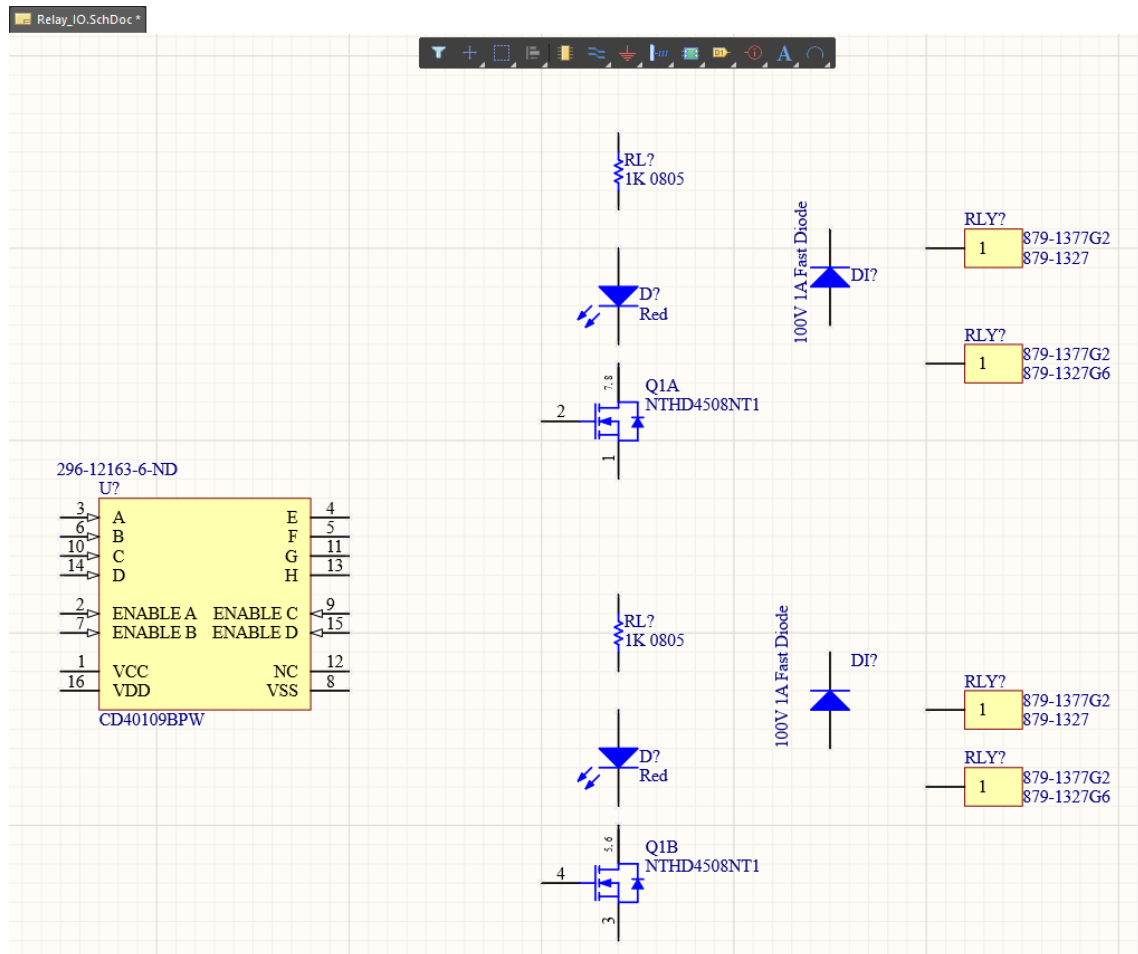

Figure 17. Relay_IO schematic symbol placement
31. Search and place the remaining components for the Relay_IO.SchDoc. Refer to Figure 17 to reference the component placement.
- a) Res1K_0805 (2)
- b) LED_Red0603 (2)
- c) Diode 1N4148 (2)
- d) Anderson-1Pin BLK_PCB_RHT (2)
- e) Anderson-1Pin Red_PCB_RHT (2)